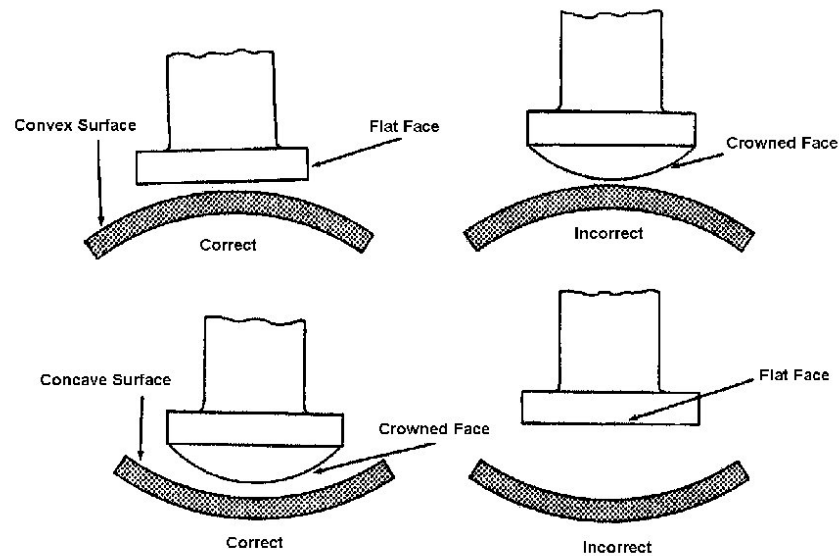

Figure 1-10. Use of crown and flat-face hammers.
Figure 1-10 shows four applications of bumping hammers—two correct and two incorrect. The top left drawing shows a convex surface being bumped with a flat-face bumping hammer—the correct method. Here, a greater area of the hammer face makes contact with the convex metal surface because a flat-face hammer is used rather than a crowned-face hammer. In the top right drawing, the same convex surface is bumped with a crowned-face bumping hammer. This is incorrect because only a small area of the crown-face hammer makes contact with the convex surface. This creates a low spot in the metal where the crown of the hammer makes contact with the metal surface.
Notice the concave surface in the lower left and right drawings in figure 1-10. The bottom left drawing shows this surface being struck with a crowned-face bumping hammer, which is correct. The crown of the hammer face should match, as nearly as possible, the curvature of the surface being struck. The bottom right drawing incorrectly shows the same concave surface being struck with a flat-face bumping hammer. If you complete this stroke, the only place the hammer makes contact with the metal surface is where the face corners meet the concave surface. This damages the metal surface at the four contact points. You normally use the bumping hammer in conjunction with the dolly block (covered later in this unit).
3. Which drawings in figure 1-10 show the correct use of a bumping hammer?